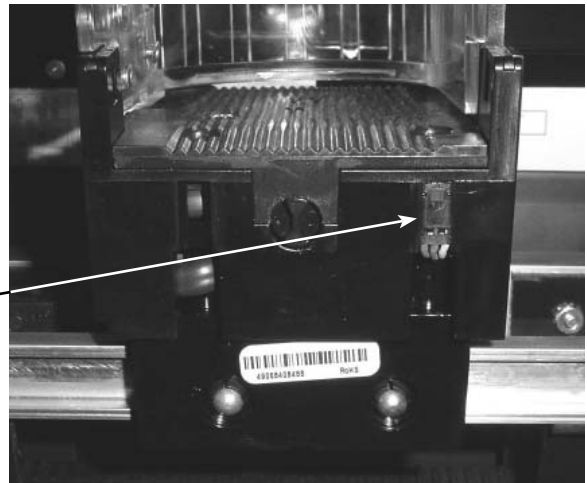

FIGURE 5.10.
2. If the display does not change, remove the top of the cup, and check the harness connection at pinout P4 on the cup logic board. (*Refer to Figure 5.10.*) Make sure there are no loose wires and the connection is tight.